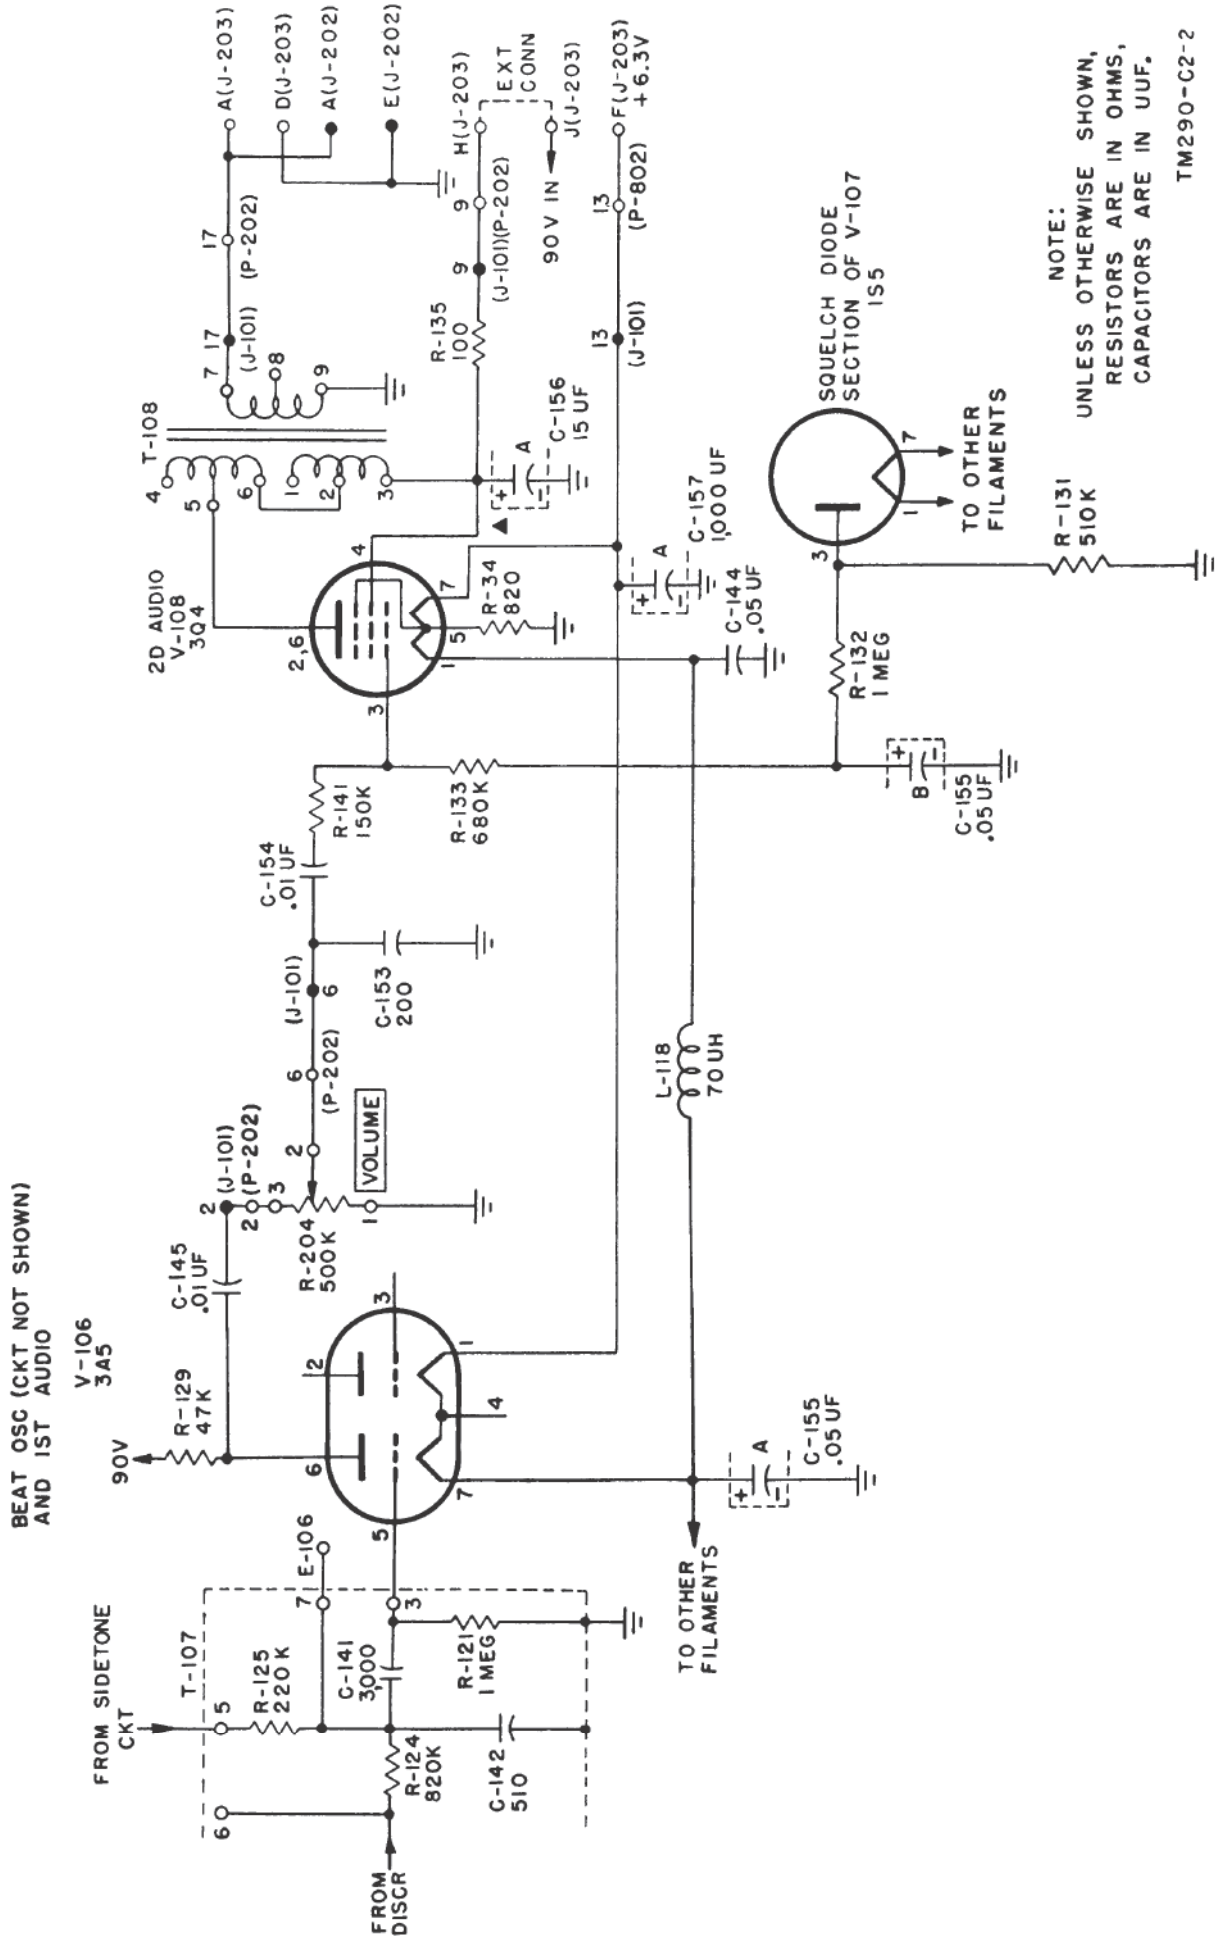

Figure 25. Receiver-Transmitter RT-70A/GRC receiver audio amplifier circuits, functional diagram.
b. In Receiver-Transmitter RT-70/GRC, tube V106, a type 1R5 pentagrid converter, serves the dual functions of first audio amplifier and beat oscillator (fig. 24). The control grid (pin 4) and the screen grid (pin 3) serve as the control grid and plate for the first audio amplifier stage. (The other tube elements, pins 6, 3, and 2, serve as the control grid, screen grid, and plate of the beat oscillator. In Receiver-Transmitter RT-70A/GRC (fig. 25), tube V106 is a 3A4 twin-triode. The beat oscillator is described in paragraph 39.
d. In Receiver-Transmitter RT-70/GRC, B+ potential is applied to pin 3 of V106 from the 90-volt supply through resistor R129. In Receiver-Transmitter RT-70A/GRC, B+ is applied to pin 6 of V106 (fig. 25) through R129. The filament circuit of both models includes isolating choke L118 and filter capacitors C144 and C155A.